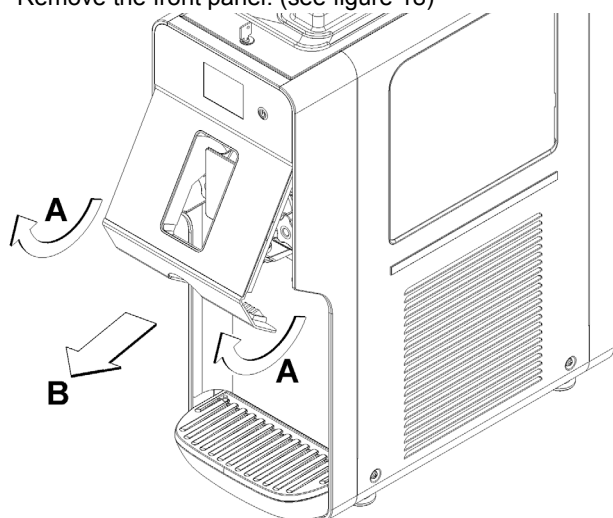

figure 18
- 4** Remove the front panel. (see figure 18)